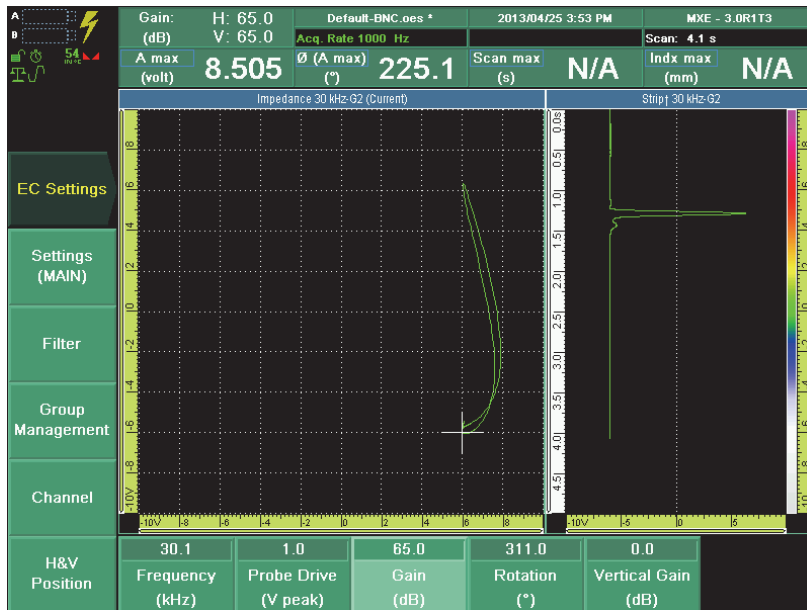

Figure 9-38 Configuring the Frequency parameter for mixing frequency 2
- c) Select **Frequency (kHz)**, set the value to three times the frequency set for the first frequency ($\text{Freq-1} \times 3$), and then press the Accept key to confirm. In this example, the **Frequency (kHz)** value is set to 30.0 (see Figure 9-38 on page 172).